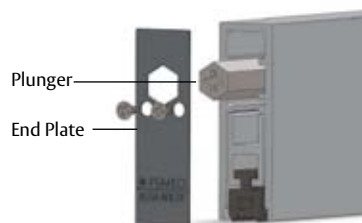

Figure 7
4. Next insert the plunger end plate with the hexagon hole. It serves to prevent the plunger from rotating and changing adjustment (as shown in Figure 7). This end plate may need to be removed for readjustment. Secure the end plate using the supplied screws. End plate "This Side In" sticker should be facing the Automatic Door Bottom and the Pemko Logo should be visible and facing outwards.